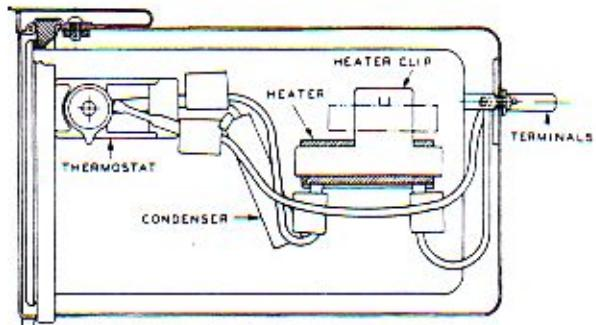

Fig. 248
6. Place the clamp on the textolite heater as shown in Fig. 248. Force the tang end under the clip welded on the liner so the flat side of the heater is pressed tightly against the liner. Push the tang end in until the lanced-up holding tab snaps up behind the clip.